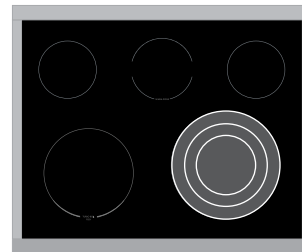
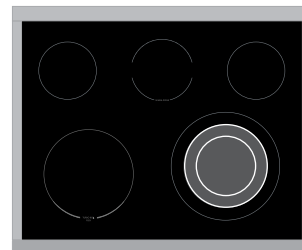
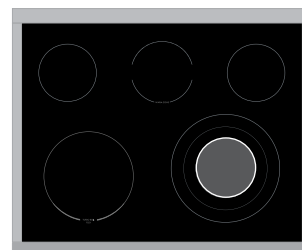

Figure 1 - Heating with all portions\*
Figure 2 - Heating with the two inner portions\*
Figure 3 - Heating with inner portion only\*
2. Push in and turn the surface control knob clockwise to begin heating all, the inner, middle and outer portions of the element (Marked triple - see figure 1). If the two inner heating portions are needed turn the knob at position marked double (Marked double - see figure 2). If only inner heating portion is needed for smaller cookware, push in and turn the knob counterclockwise (Marked single - see figure 3).